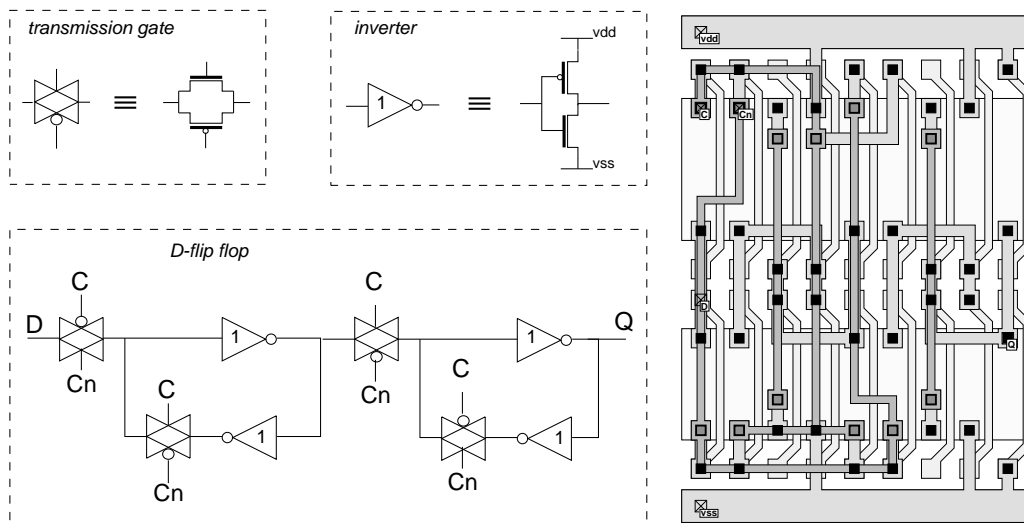

Figure 2.7: Circuit diagram of a D-flipflop and its layout on the fishbone image.
- Take advantage of the fact that the fishbone image contains series connections of transistors of the same type (n-mos or p-mos). Try to find chains of n-mos transistors in the circuit diagram of your cell and lay these chains out on the fishbone image. Isolate the chains from each other with isolation transistors. Follow the same procedure for p-transistor chains. If you are very lucky, the entire circuit can be implemented with only one n-chain and one p-chain. An example of such a circuit is the D-flipflop depicted in figure 2.7.